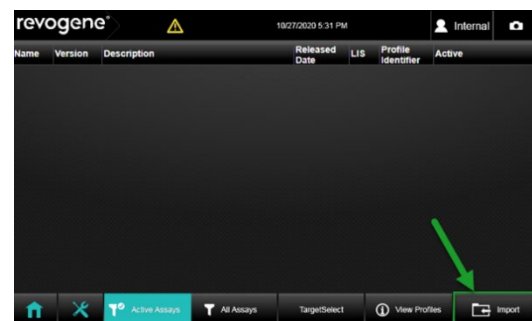

Figure 8. Assay Import Button
3. Tap on the <Import> tab at the bottom right corner. (Figure 8)